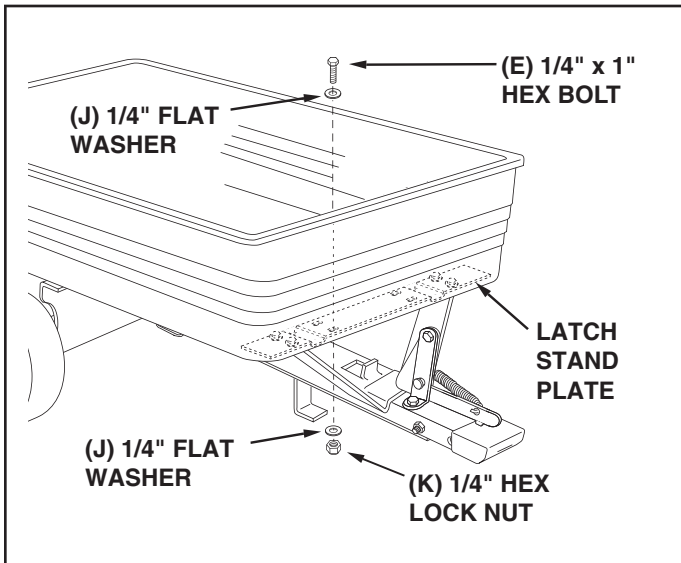

FIGURE 9
15. Insert four 1/4" x 1" hex bolts (E) with 1/4" flat washers (J) down through the tray and the inside holes in the latch stand plate. Secure the bolts with four 1/4" flat washers (J) and 1/4" hex lock nuts (K). **Do not tighten yet.** See figure 9.